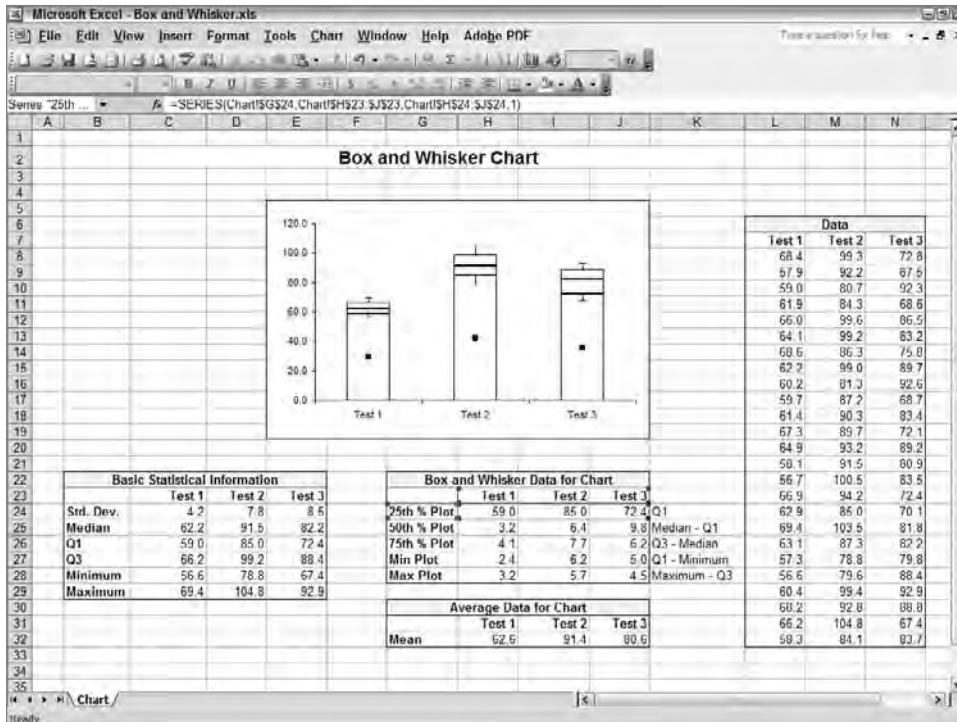

Figure 24.4: This figure reveals how the box-and-whisker plot is based on a stacked column chart.
9. Right-click the Y-axis, choose Format Axis and adjust the Y axis scale. Your chart should now look like Figure 24.4.